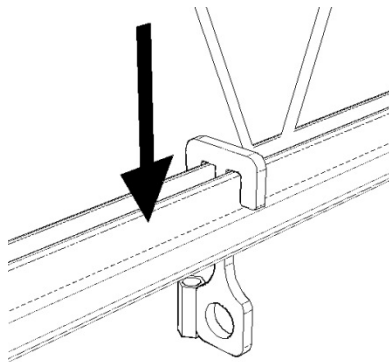

Figure 12 – Lower Anchor on Truss
11. Lower anchor so bearing points sit squarely on vertical legs of the bottom chord of building truss (See figure 12).